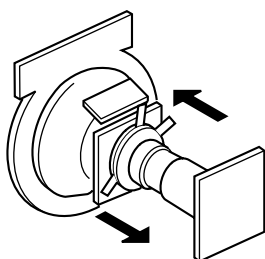

Fig. 4-1
(See Figures 4-1 through 4-4.)
4. Move the deflection yoke forward and adjust so that the entire screen is green. (See Figure 4-1.)